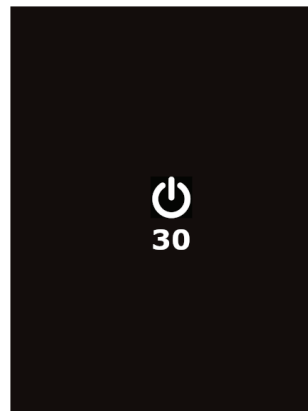

Fig. 13: Auto shut off
- ⇒ A 30 second countdown timer with a flashing power icon is displayed (see Fig. 13).